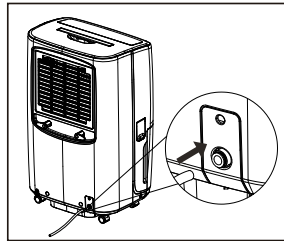

fig. 12
- b. Insert the drain hose onto the drainage joint, make sure is connected well so that it is fully seated. (fig.12&13)